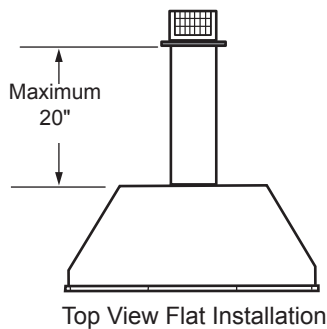

Figure 14 - Rear Vent Application, Maximum Horizontal Distance
- The maximum horizontal distance between the rear of the appliance and the termination is 20" (508 mm). *Figure 14*